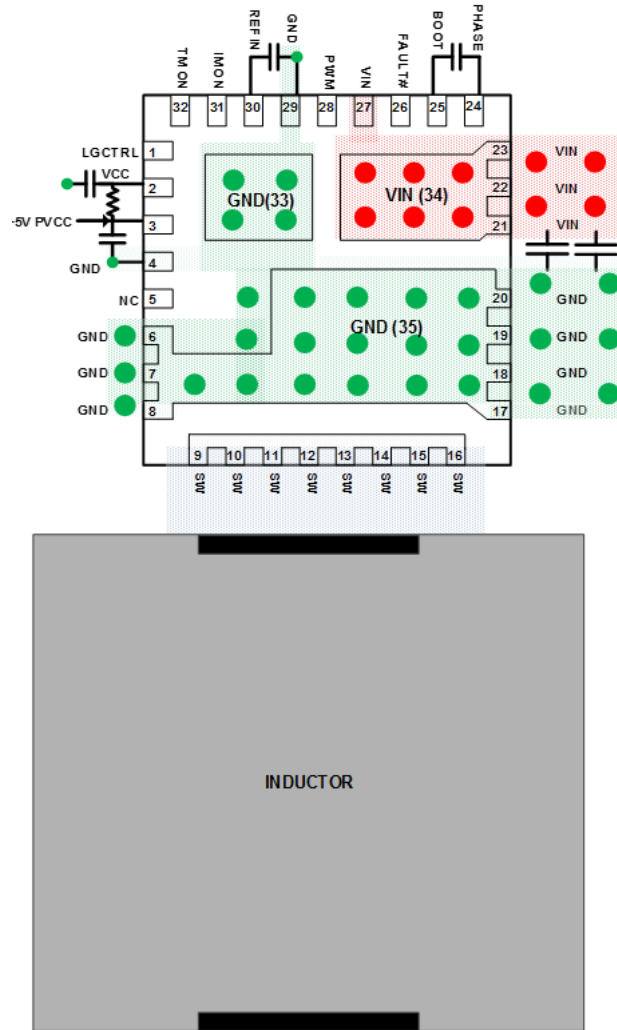
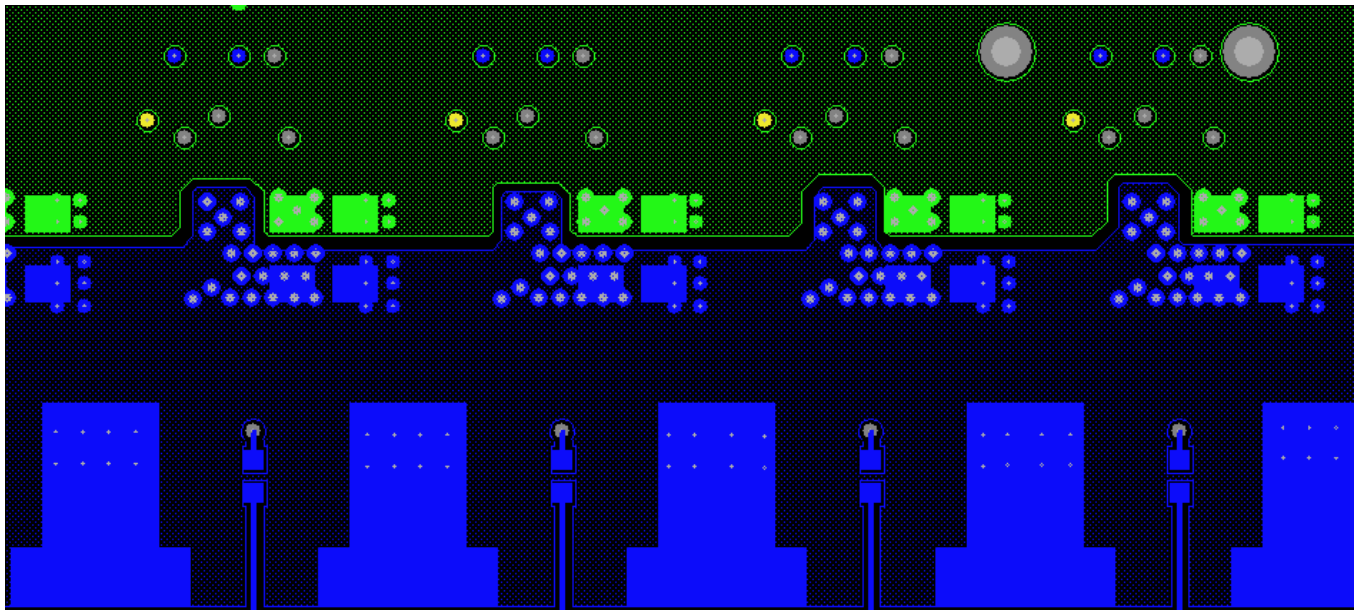

FIGURE 15. SINGLE-PHASE PCB LAYOUT FOR MINIMIZING CURRENT LOOPS
FIGURE 17. MULTIPHASE PCB LAYOUT EXAMPLE BOTTOM LAYER
- Place multiple 10 μ F or greater ceramic capacitors directly on the device between VIN and GND as indicated in Figure 15 on page 14. This is the most critical decoupling and will reduce parasitic inductance in the power switching loop. This will reduce overall electrical stress on the device as well as reduce coupling to other circuits. Best practice is to place the decoupling capacitors on the same PCB side as the device. For a design with tight space requirements, these decoupling capacitors can be placed under the device, that is, bottom layer, as shown in Figure 17 on page 15.
- Place PVCC, VCC, and BOOT-PHASE decoupling capacitors at the IC pins as shown in Figure 15 on page 14.
- The IMON and IREF network and their vias should not sit on the top of the VIN plane. A keep out area is recommended, as shown in Figure 17 on page 15.